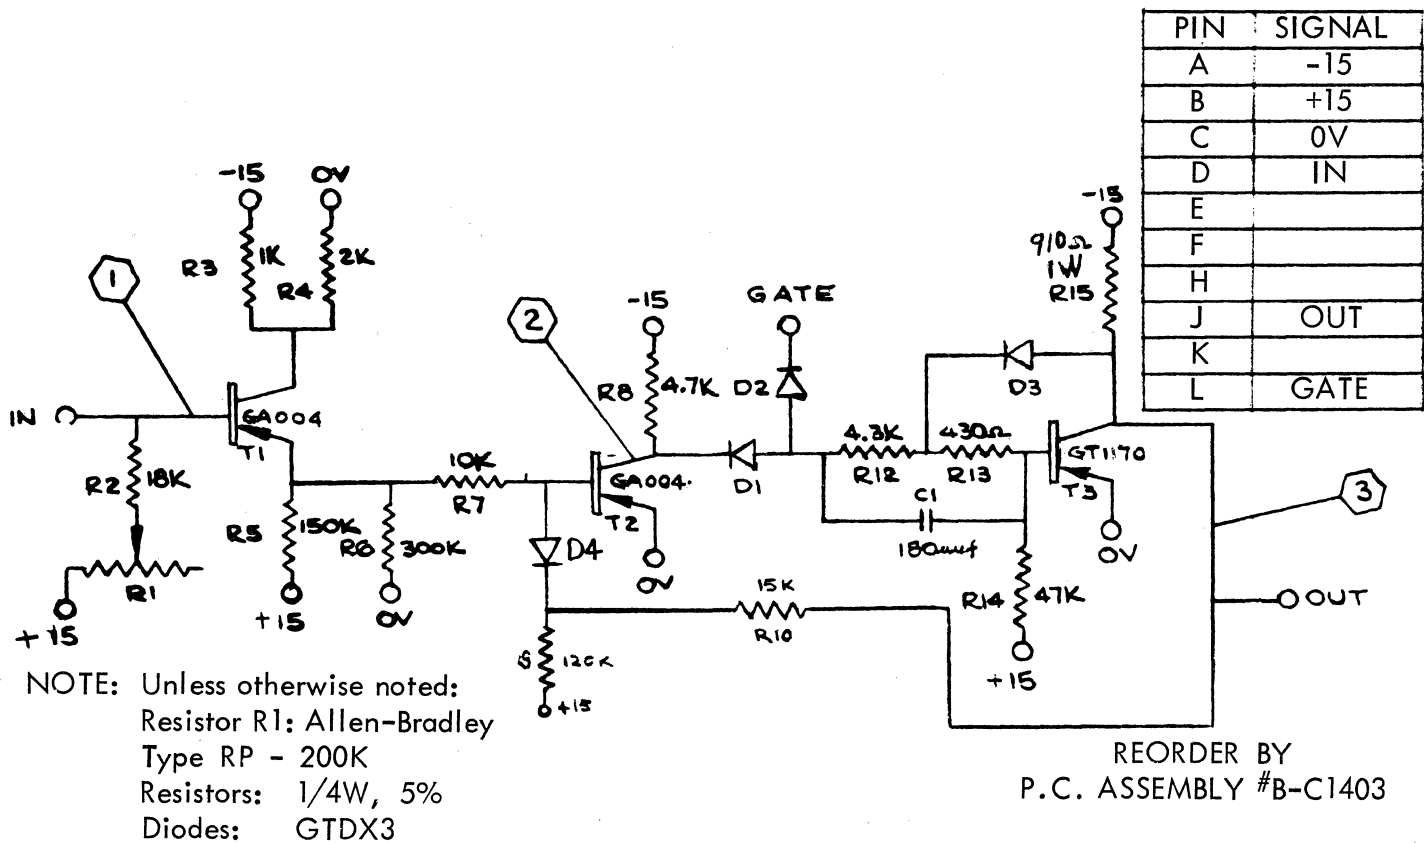

FIGURE 3-7 SCHEMATIC DIAGRAM - PGE-A
(5) Circuit Description Data Channel Amplifiers PGE-A (See Figure 3-7)